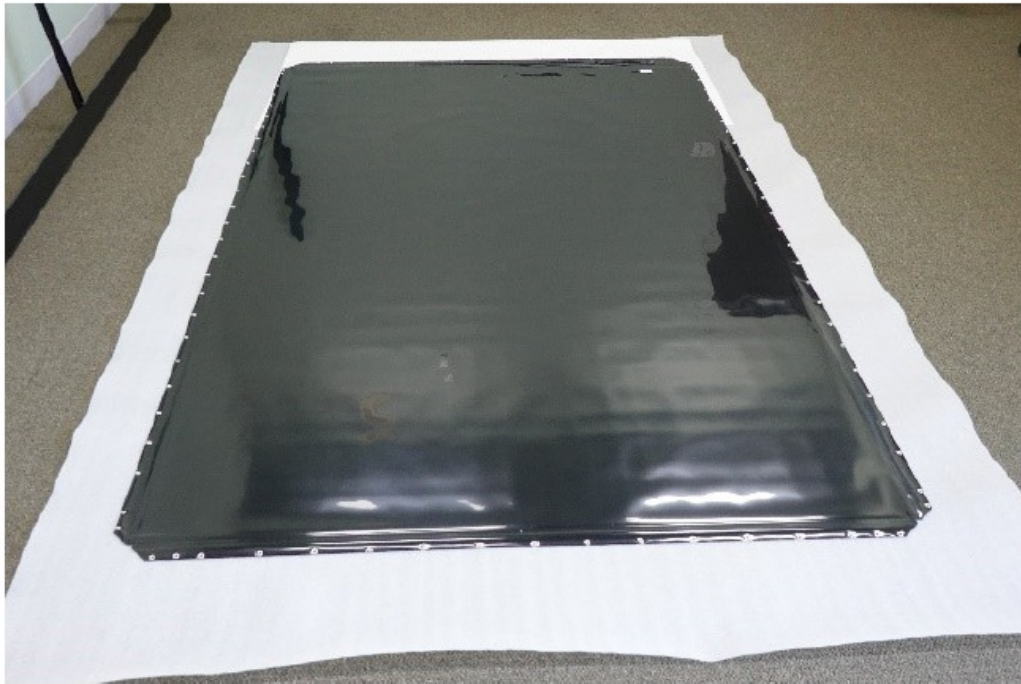

Figure 7: Roll screen out, viewing side down
1. Roll the screen out onto a drop cloth on the floor with the viewing side facing down (see Figure 7). A. The BlackHawk UST comes pre-rolled with a foam liner on the viewing side.